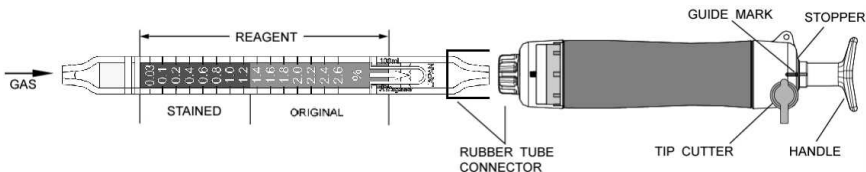

Fig.1
- ① Break both ends of the detector tube.
- ② Insert the detector tube into the aspirating pump securely as shown in Fig.1. (Arrow mark shall point to the pump.)
- ③ Align the guide marks on the shaft and stopper of the aspirating pump.
- ④ Pull the pump handle at a full stroke until it locks and wait for 1.5 minutes or until the completion of sampling is confirmed with the flow indicator of the pump. (See descriptions about the flow indicator in the instruction manual of the pump.)
- ⑤ On completion of sampling, read the scale at the maximum point of the stained layer.